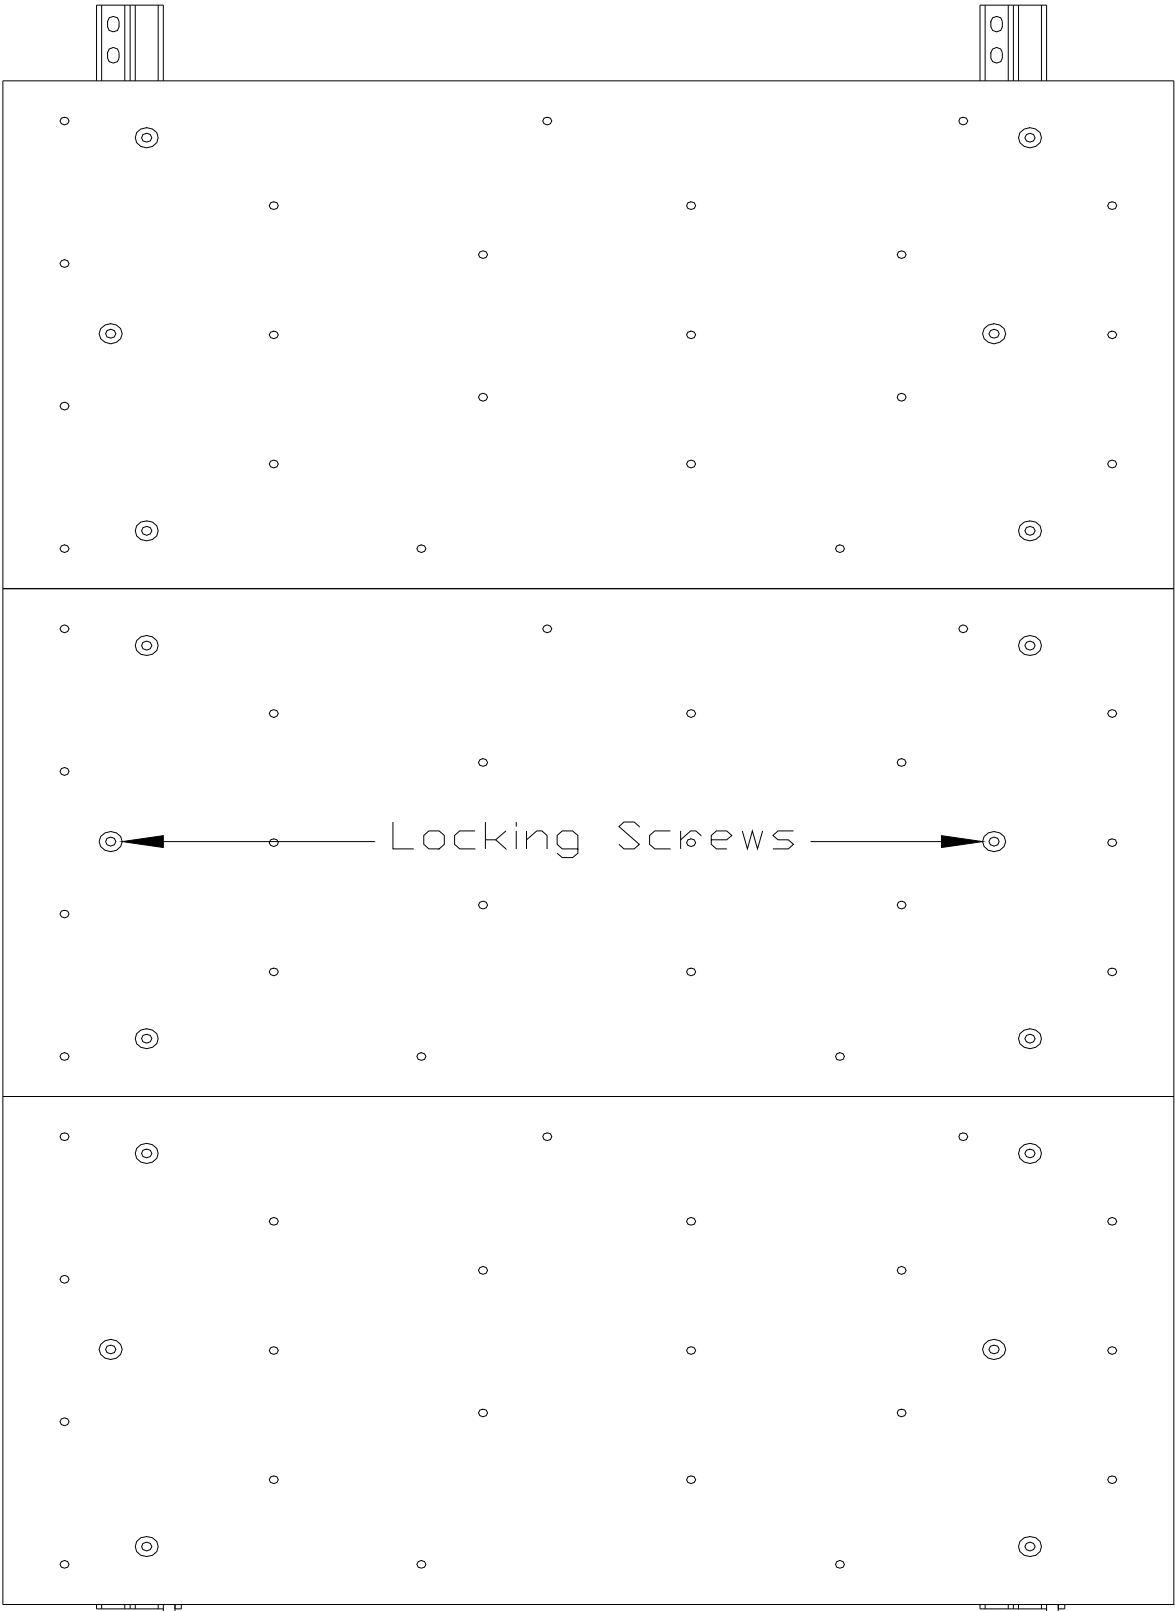

Figure 4
- The panels can be used in a vertical position, or the bottom will slide out to a sloped position for clients who lack sufficient strength to hold on to a vertical surface. **Note: the panels are locked in the vertical position with two 3/8 x 1 -3/4” flat head screws in the middle panel (see figure 4). These screws must be in place and engage the locking nuts on the inside channel when using the panels in the vertical position. Failure to observe this could result in injury if the panel were to slide out while in use.**